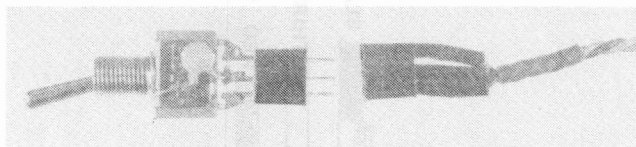

FIGURE E-6 PLUG INSTALLATION
- () If you are using three new switches, solder the wires to the switches as indicated. (Fig. E-6) The cable with the brown wire in it is for Ch. 1 (elevator); Orange for Ch. 2 (aileron); and Yellow for Ch. 3 (rudder). Make sure the .001 mf caps are still properly installed.
- () If you are using the existing Dual Rate switches you can simply unsolder and completely remove the wires that come from the Encoder Mainframe for Dual Rate and solder the wires from the Exponential board to the switches as in the preceding step, or if you want to make the Exponential board removeable, a male Deans three pin connector (Ace Cat. No. 19K54) can be soldered directly to the switch terminals and a female can be soldered to the wires from the Exponential board plus another female connector can be wired to the pair of Dual Rate wires from the Mainframe so that one or the other can be plugged into the switch depending upon whether the Exponential rate option is used or not. Make sure the hookup corresponds with the switch wiring illustration. (Fig. E-6)